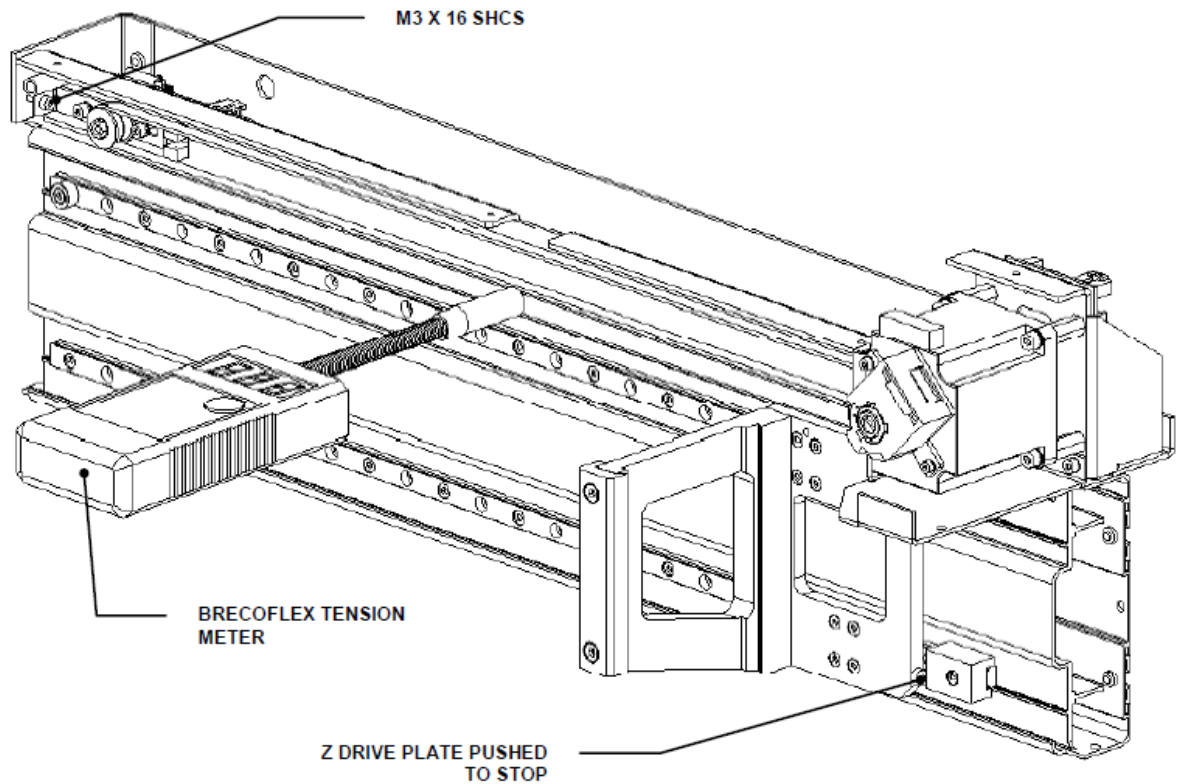

Figure Y-14: Using the Tension Meter
10. Position the Tension Meter (Gates Sonic Tension Meter 507C) at the approximate position indicated below **near the lower half of the belt**. The Tension Meter must be 3-6mm away from the belt to obtain a reading (Figure Y-14).